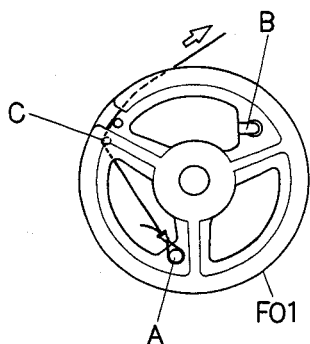

Fig. 5.1.5
- (1) Referring to Fig. 5.1.5, set a dial thread to a protrusion "A" by way of "C".